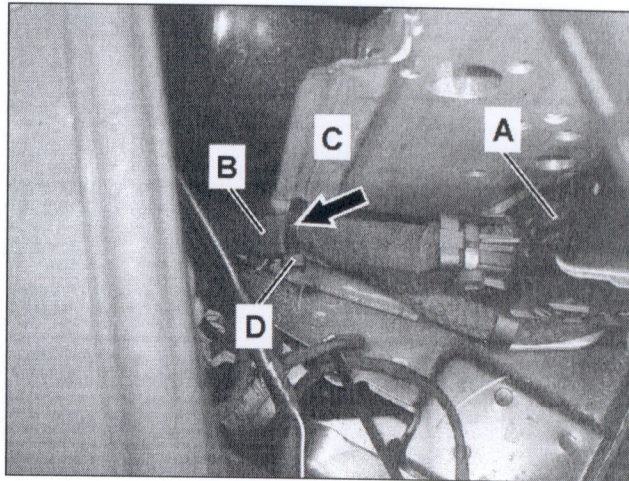

Figure 27
27. Connect SBC harness connector (A, Figure 27) to SBC hydraulic unit and secure by engaging locking mechanism.
32. Secure SBC wiring harness (B, Figure 27) to SBC hydraulic unit bracket (C) with cable tie (arrow). Tighten cable tie (arrow) using Hellermann MK9 cable tie pliers (Special Tool W 352 589 02 37 00); use **setting 3** on cable tie pliers.